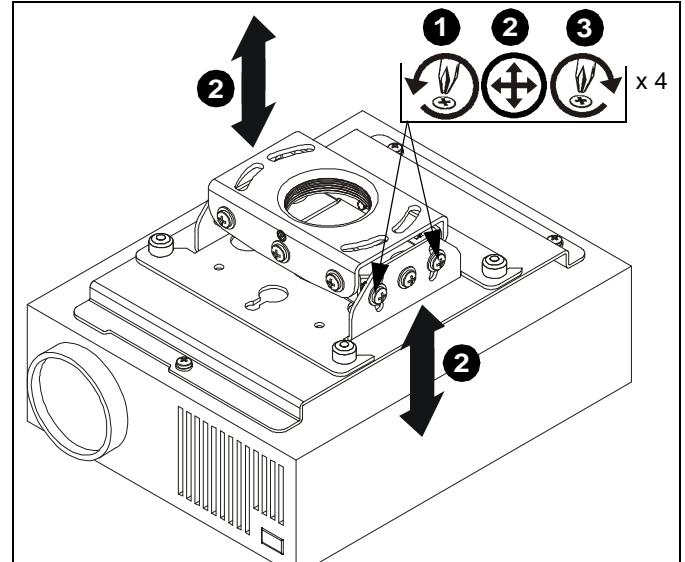

Figure 9
2. Adjust projector angle to desired pitch. (See Figure 9)